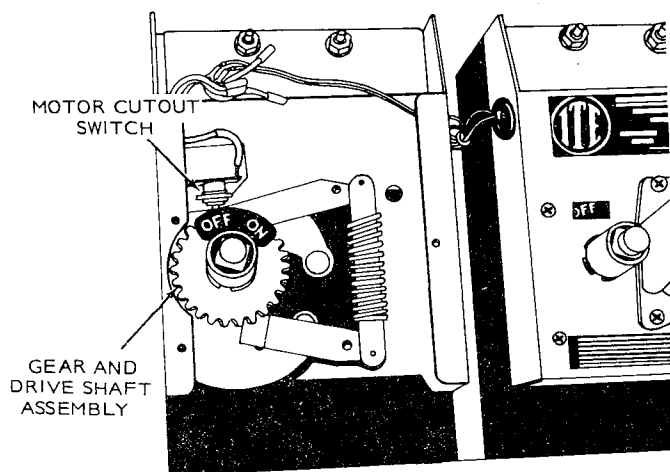

FIGURE 2-23. GEAR AND DRIVE ASSEMBLY OF TRANSFER SWITCH
15. Remove the Phillip screws previously loosened, grab hold of the small panel, gear and drive shaft assembly, and pull straight out (Figure 2-23).